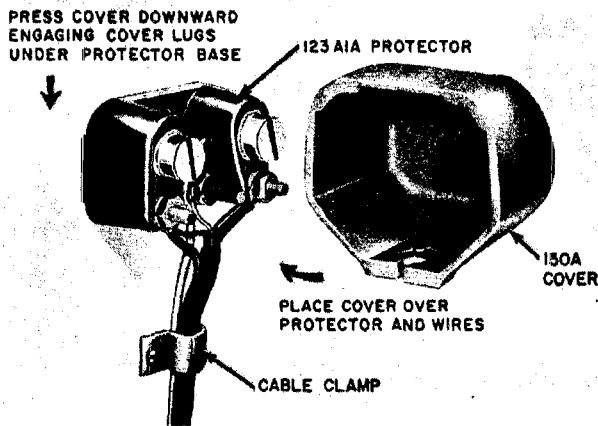

Fig. 10—150A Cover
3.05 The 150A Cover consists of gray semiflexible insulating material (Fig. 10).